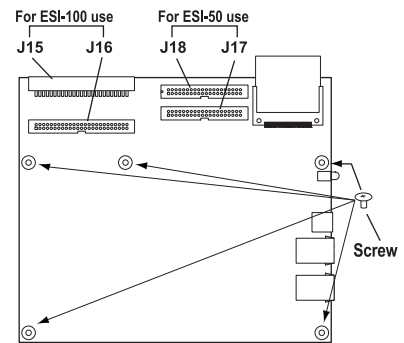

Figure C-2
On each system, port cards are added in a “piggyback” fashion — *i.e.*, port card 2 plugs into port card 1, port card 3 plugs into port card 2, *etc.* (Neither the CS-SIP24 nor the CS-SIP8 nor the ASC may be in slot 1 on an ESI-100, and the ESI-50 main board contains a fixed 482 card.) Use the following table and **Fig. C-2** (*below*) to determine which connectors to use in each case:
3. Secure the card to the cabinet (**Fig. C-2**).